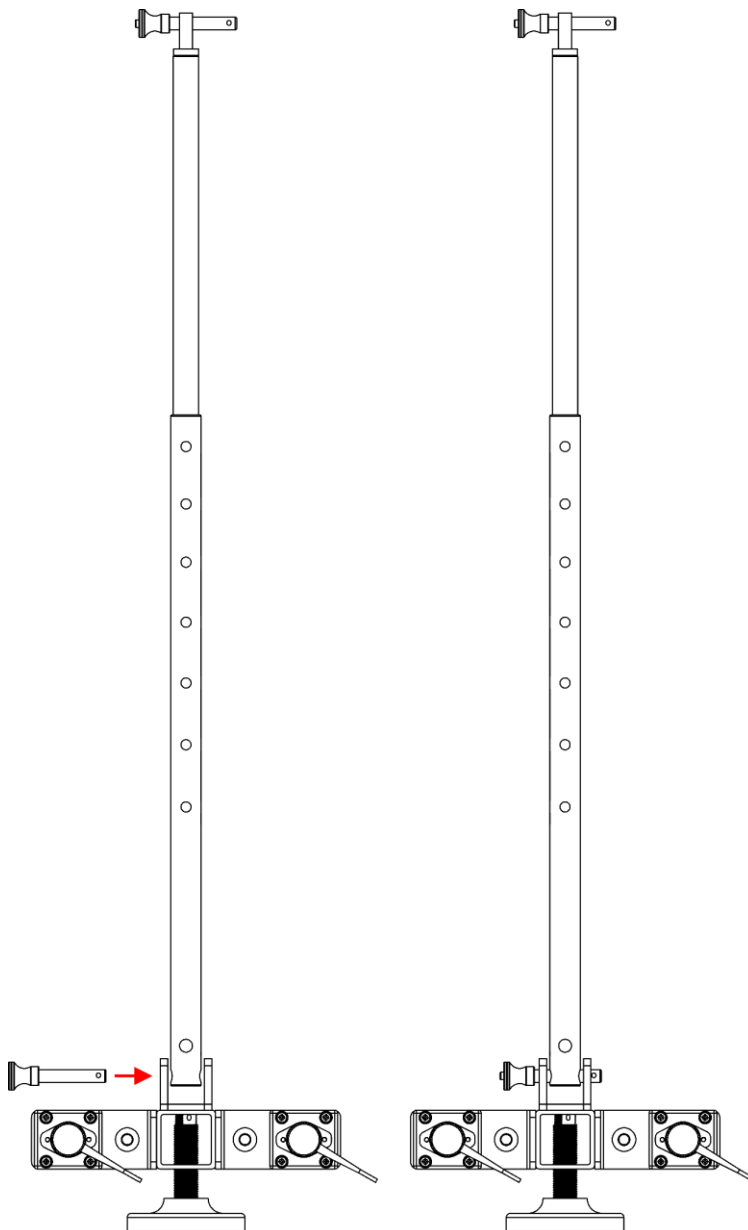

Fig. 12
- 02) Put the **spring-loaded pin (18)** through the **extension tube mounting opening (11)** of the **rear frame (D)** and the lower opening of the **extension tube (E)** (Fig. 12).